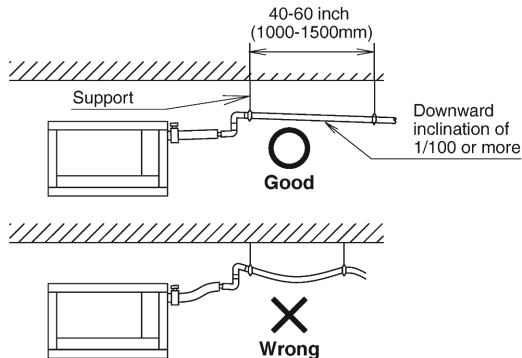

Fig. 12
(1) Carry out drain piping.
- Install the drain piping as short as possible with downward inclination of 1/100 or more and without such that air may not stagnate. (Refer to Fig. 12) (It may cause abnormal sound such as bubbling noise.)
- Install supports at a distance of 40 to 60 inch (1000 to 1500mm) so that the piping may not deflect. (Refer to Fig. 12)
- Make sure to use the attached drain hose (2) and the clamp metal (1). Insert the drain hose (2) into the drain socket up to the point where the socket diameter becomes larger. Put the clamp metal (1) to the taped hose end and tighten the clamp metal (1) with torque 10.6~13.3lbf•ft (120~150 N•cm).